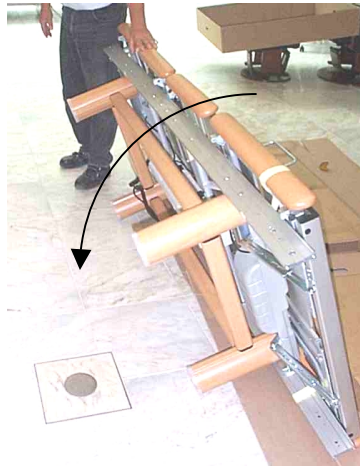

Figure 28
- Grasp the middle of the side bearer with both hands and lower the bed gently on to its feet (see Figure 28).